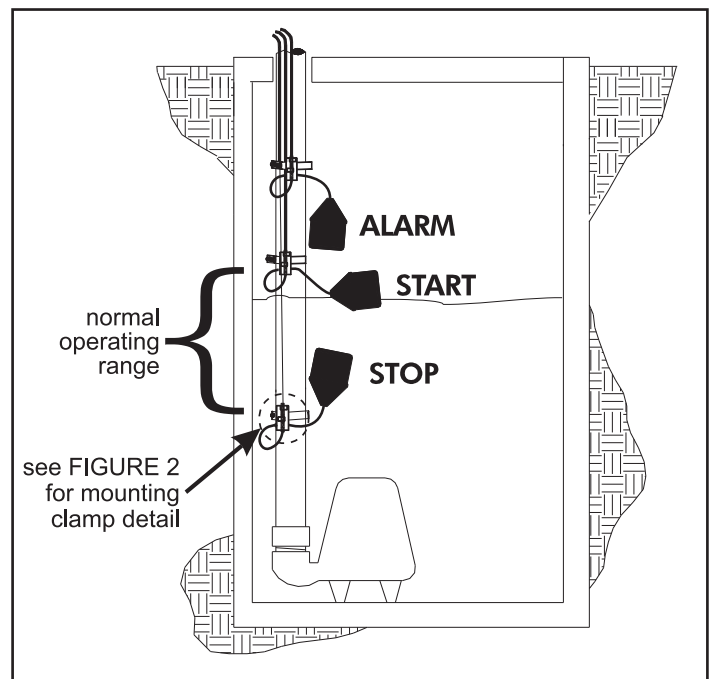

FIGURE 1
2. Determine your normal operating level, as illustrated in **Figure 1**.